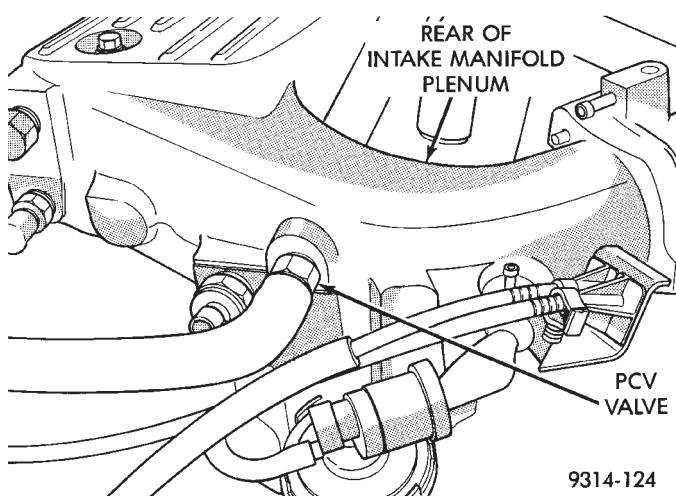

Fig. 23 PCV Valve—3.3L Engine
(1) Warm engine in Park or Neutral until the cooling fan has cycled on and off at least once.
(2) Ensure that all accessories are off.
(3) Shut off engine.
(4) Disconnect the PCV valve hose from the intake manifold nipple (Fig. 23). Cap the PCV valve.
(7) Connect the DRBII scan tool to the data link connector inside the passenger compartment (Fig. 23).
(8) Restart the engine. Allow engine to idle for at least one minute.
(9) Using the DRBII scan tool, access Min. Airflow Idle Spd.
(10) The following will then occur:
(11) If idle RPM is within the range shown in the Idle Specification chart, throttle body minimum air-flow is set correctly.
- (7) Connect the DRBII scan tool to the data link connector inside the passenger compartment (Fig. 23).
(9) Using the DRB II, access Min. Airflow Idle Spd.
(11) If idle RPM is within the range shown in the Idle Specification chart, throttle body minimum airflow is set correctly.
(12) Shut off engine.